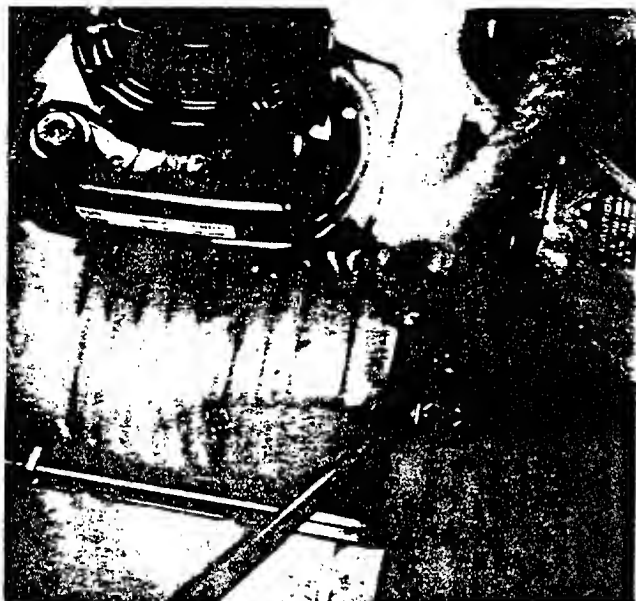

FIGURE 3.
1. Position the lower handle over studs on deck. Secure with two hair pin cotters. See figure 3.